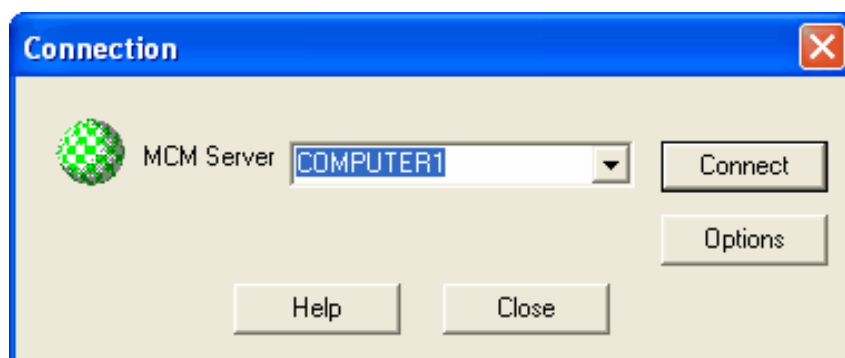

Figure 51: Connection dialog
3. Enter either The network machine name or IP address as shown in Figure 51.